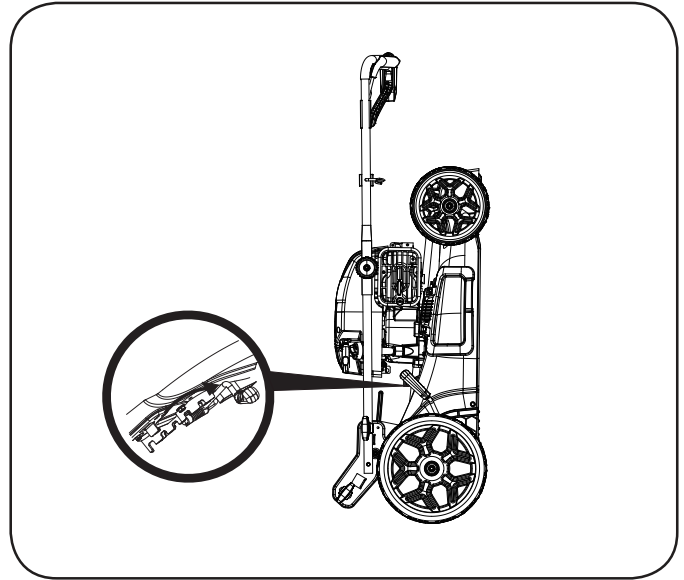

Figure 13
- Fold it vertically for easy storage. Move the cutting height adjustment lever to lowest cutting height position before folding (Figure 13).